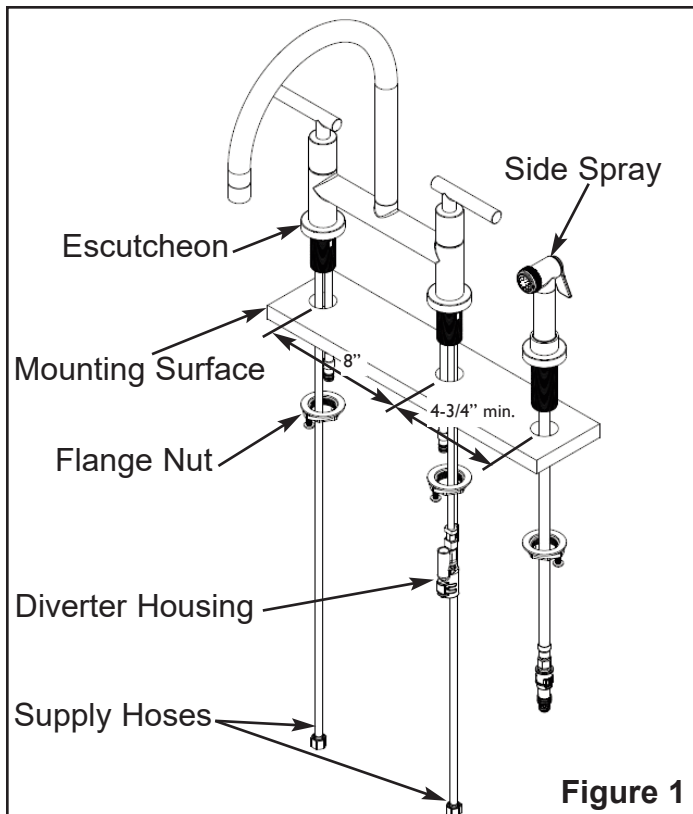

Figure 1
1. Insert water supply lines through mounting holes, then place faucet and side spray with escutcheons attached onto the deck, and secure with flange nuts. See **Fig. 1**.